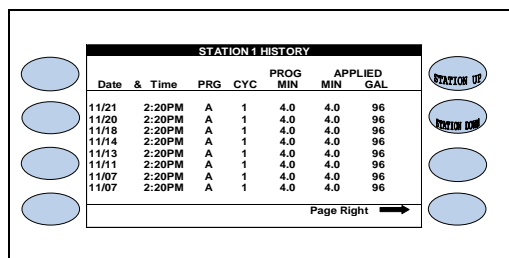

Figure 6.10
The STATION HISTORY screen is displayed (Figure 6.10).
4. Press the **PAGE RIGHT** Menu key to view the previous screen (Figure 6.10).